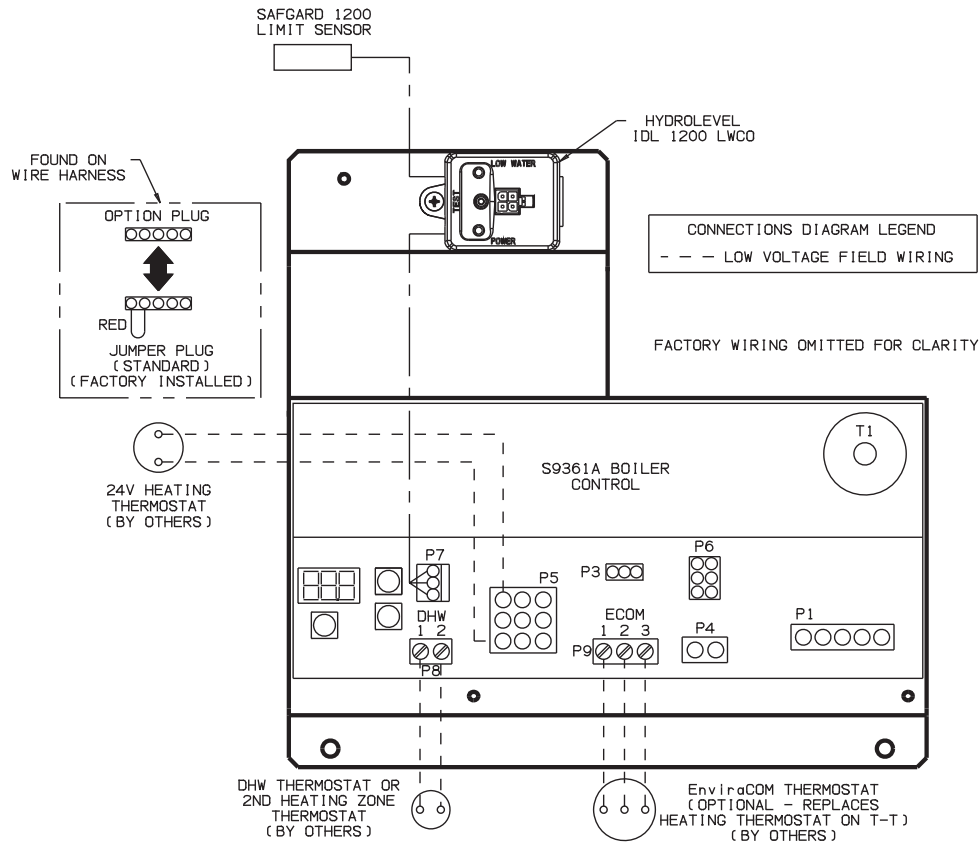

FIGURE 9.1: LOW VOLTAGE FIELD CONNECTIONS
- a) Heating Circulator - Pumps water upon a call for heat (CH) from the thermostat terminals T-T shown in Figure 9.1 or from an EnviraCom thermostat. This output is factory wired to the “circulator whip” mounted on the boiler.
- b) DHW Circulator - Pumps boiler water to an indirect water heater upon a call for domestic hot water (DHW) from the DHW thermostat terminals shown in Figure 9.1. This output can also be used for a second space heating zone. See Section XI of this manual for additional information.
2. Low Voltage Connections – Low voltage field connections are located as shown in Figure 9.1 and are as follows:
Note: When the Option Plug is not used, the factory supplied jumper plug shown in Figure 9.1 must be installed for boiler to operate.